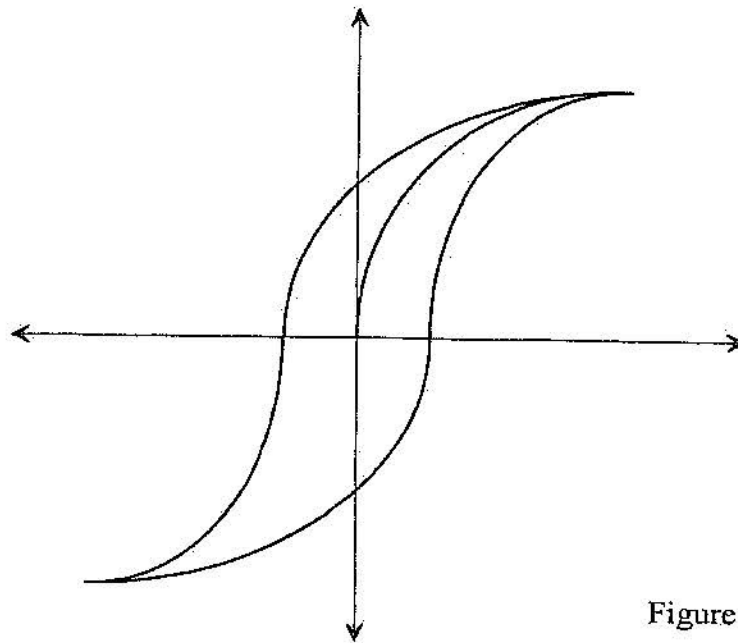

Figure 1
9. Cut and paste the diagram of figure 1 on your answer sheet. On the diagram: